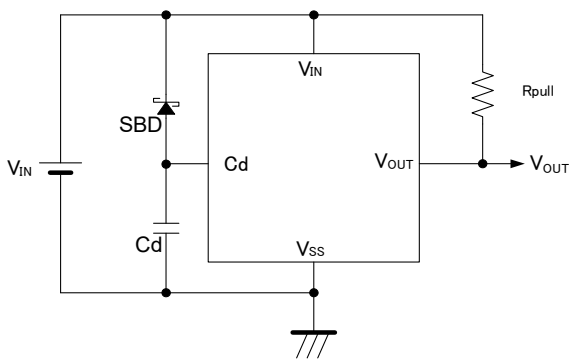

Figure 3: Circuit example with a Schottky diode connected to the  $C_d$  pin
- To place a Schottky diode between the  $V_{IN}$  pin and the  $C_d$  pin. (See Figure 3)